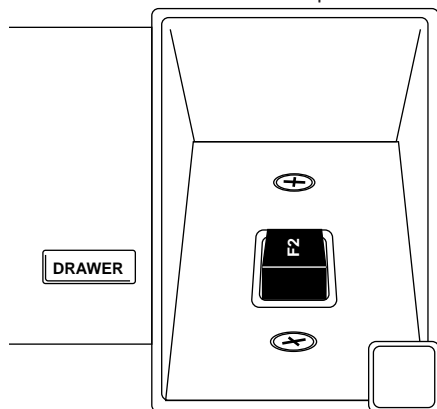

Figure 2-4: The F2 cuvette in the cuvette port
4. Place cuvette standard F2 in the cuvette port, aligning it so that the writing on top of the standard faces the microplate drawer. See Figure 2-4.
7. Place cuvette standard F3 in the cuvette port, aligning it so that the writing on top of the standard faces the microplate drawer. See Figure 2-4.
10. Place cuvette standard F4 in the cuvette port, aligning it so that the writing on top of the standard faces the microplate drawer. See Figure 2-4.